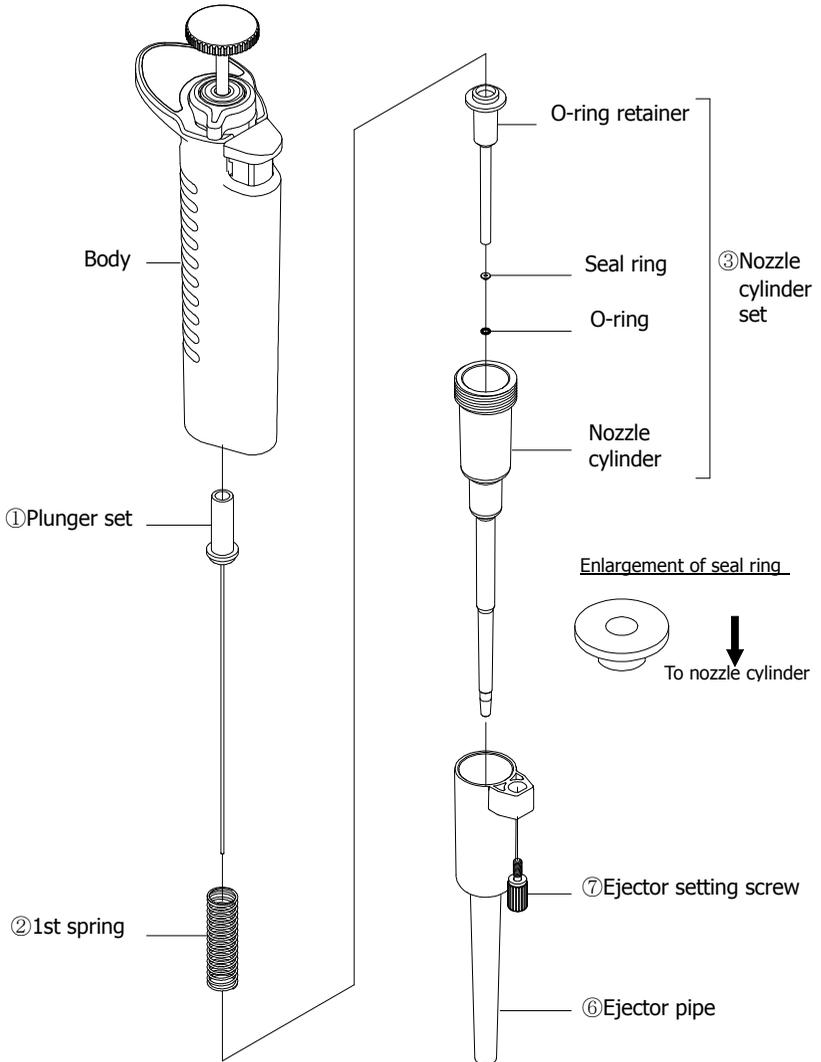
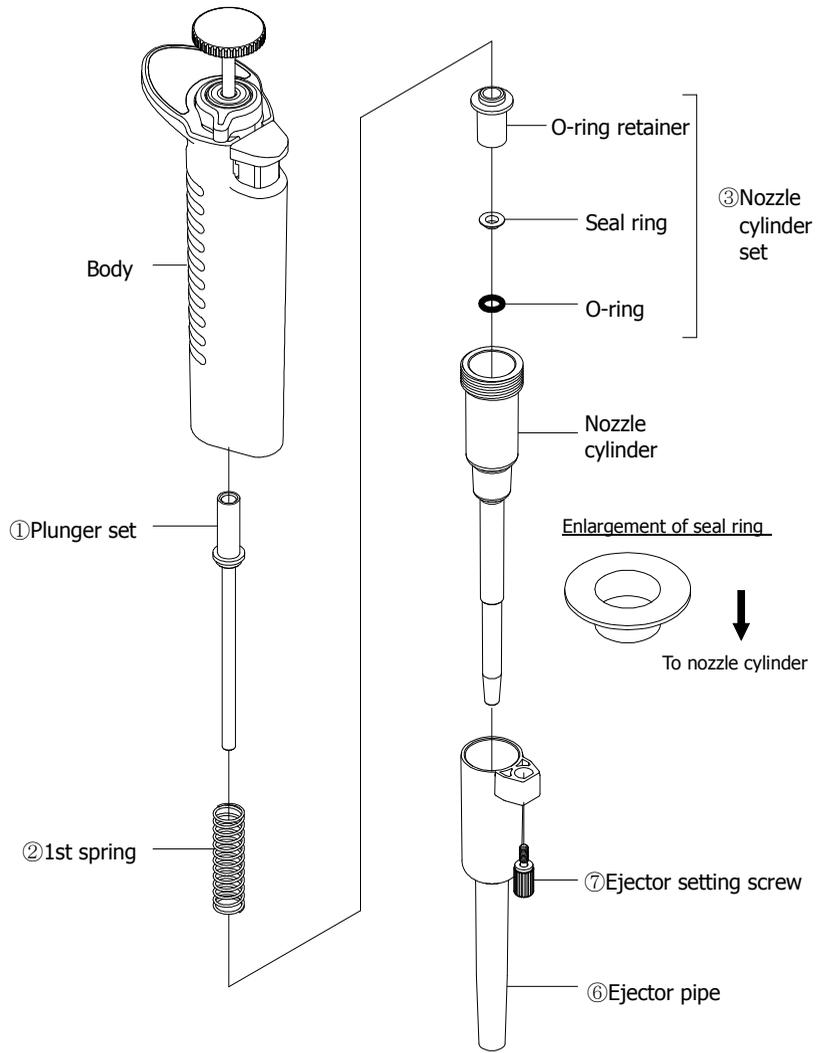

Fig. G1
Fig. G2
② Turn the nozzle cylinder counterclockwise to remove it, as it is screwed into the main body.
③ Remove internal parts one after another.
- 2ul-1000ul: Fig.G1, G2, G3
① Reassemble nozzle cylinder.
- 2, 10, 20ul: Fig. G1, 100, 200ul: Fig. G2, 1000ul: Fig. G3
② Fit the ejector pipe to the body.
- 2, 10, 20ul: Fig. G1, 100, 200ul: Fig. G2 1000ul: Fig. G3